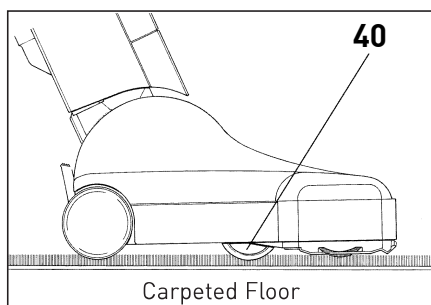

Figure 6
On carpeted floors (figure 6), the adjustment wheel (40) moves downward out of the machine so that the brush rises. The adjustment wheel moves up and down automatically to adjust the brush to the correct setting. This provides proper brush action, while maintaining optimal air flow.